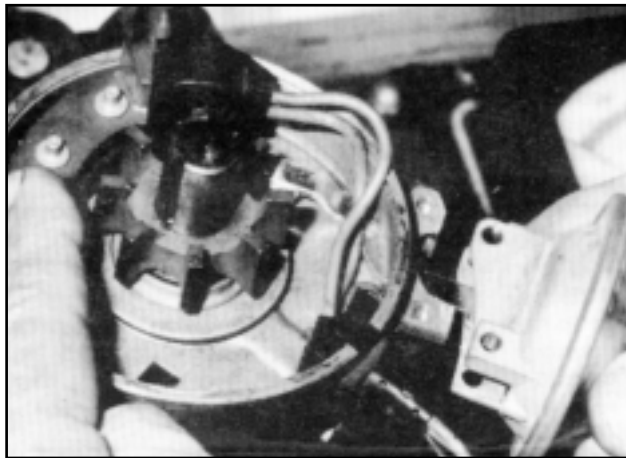

FIG. 16
19. Install new adjustable vacuum advance unit with two screws previously removed. Install C clip. (FIG. 16)